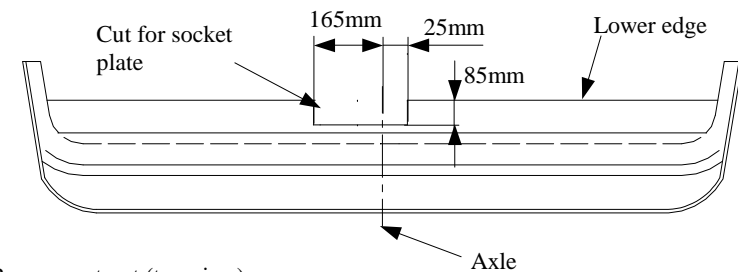

Fig. 2 Bumper cut out (top view)
3. Slide the main bar (pos. 1) into the chassis and then fix with M10x40mm bolts (pos. 5) and big washers $\varnothing 30 \times \varnothing 10,5 \times 2,5$ mm (pos. 8) from the towbar equipment. Choose holes depend on car type.
5. Position the ball of towbar fix with M12x70mm bolts (pos. 4) from the towbar accessories.
6. Fix the socket plate (pos. 3) as shown on the drawing.
7. Cut the bumper according to figure 2 and mount it to the car.